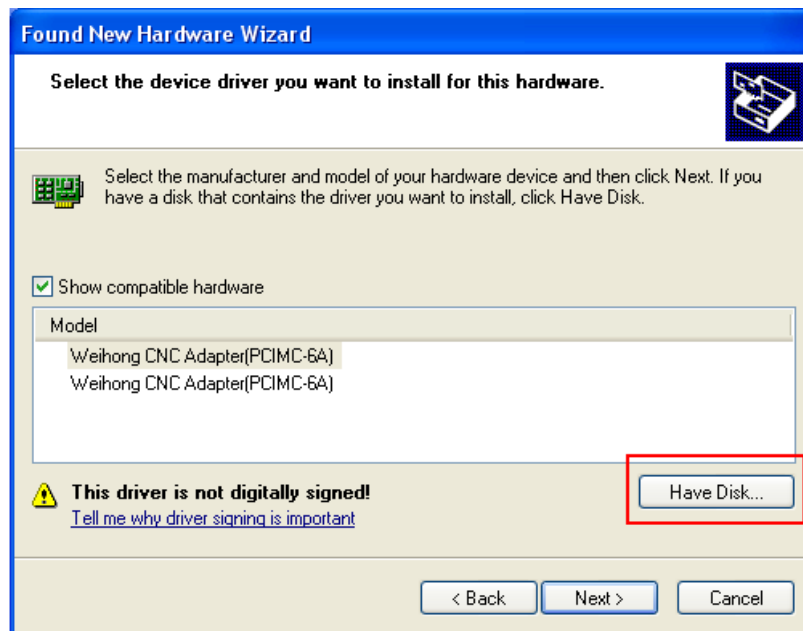

Fig. 2-9 Select the driver manually
- 3) Select "Don't search", I will choose the driver to install', click [Next] to go ahead, as Fig. 2-9 shows.